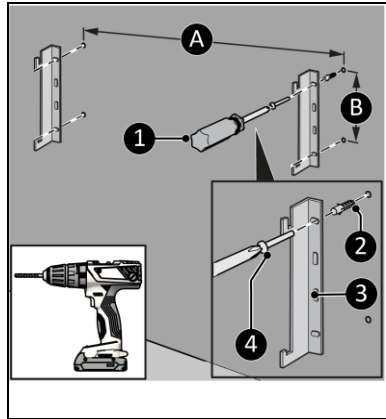

Figure 10
4. Drill four holes for the brackets, the two lower holes at least 125 mm above the floor. The distance between the vertical holes (Figure 10, pos. B) is 105 mm. The distance between the horizontal holes is approximately (Figure 10, pos. A and B)\*:
5. Place wall plugs (Figure 10, pos. 2).
6. Screw and tighten a left and a right bracket (Figure 10, pos. 3) to the wall with a large screw (Figure 10, pos. 4) using a Phillips screwdriver (Figure 10, pos. 1).